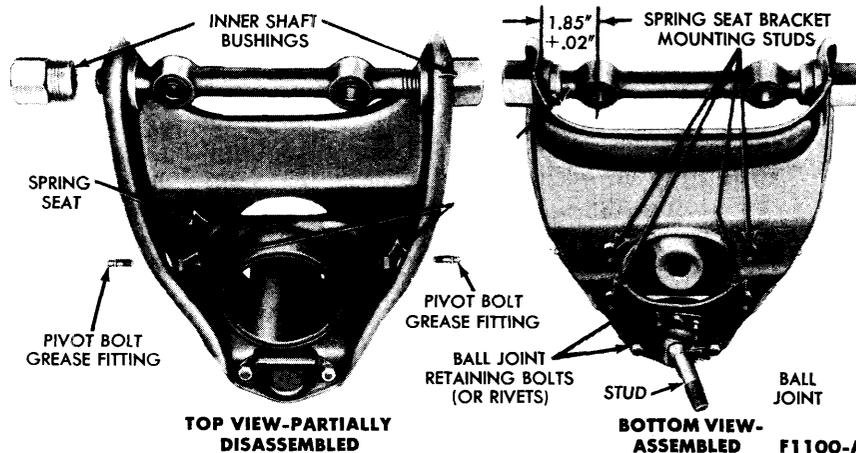

FIG. 7—Upper Suspension Arm
7. Remove the four stud nuts that retain the spring lower seat assembly to the upper arm (Fig. 7).
1. Install the studs of the spring seat through the holes in the new upper arm, and secure the seat to the arm with stud nuts (Fig. 7).
2. Position the shaft in the arm, apply grease to the new bushings (Part 12-1), and install the bushings loose on the shaft and arm. Turn the bushings so that the shaft is exactly centered in the arm. The shaft will be properly centered when located at the dimension shown in Fig. 7.